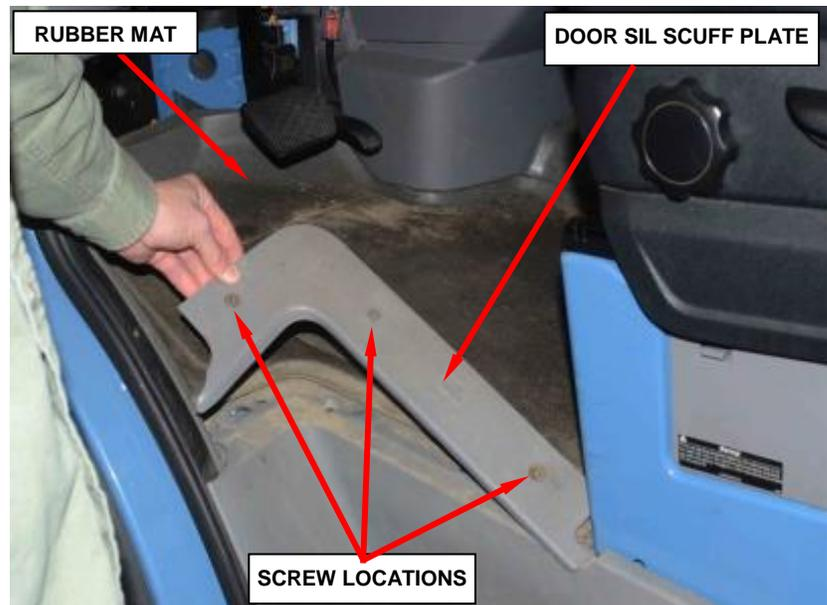

Figure 1 – Door Sill Scuff Plate
- a. Remove and save the three screws from the door sill scuff plate and remove the door sill scuff plate (Figure 1).
- b. Remove the rubber mat (Figure 1).
11. Install the rubber mat (Figure 1).
12. Install the door sill scuff plate and the three screws then tighten securely (Figure 1).